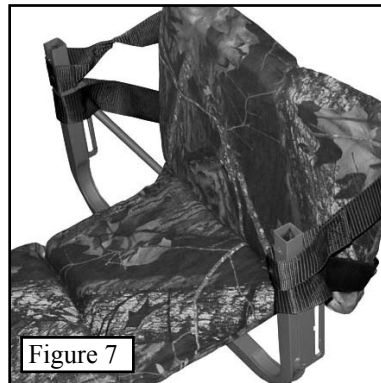

Figure 7
Step 7. Position seat then slide it down onto the Arm Support Bar as shown in **Figure 7**.